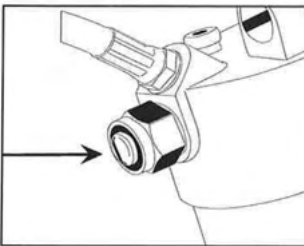

Figure 5
**PRESSURE RELIEF VALVE (see Figure 5):**